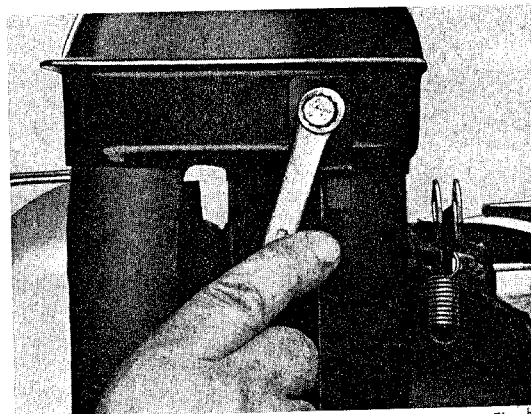

Fig. 93
1. Unscrew bolt on junction box (Fig. 93).